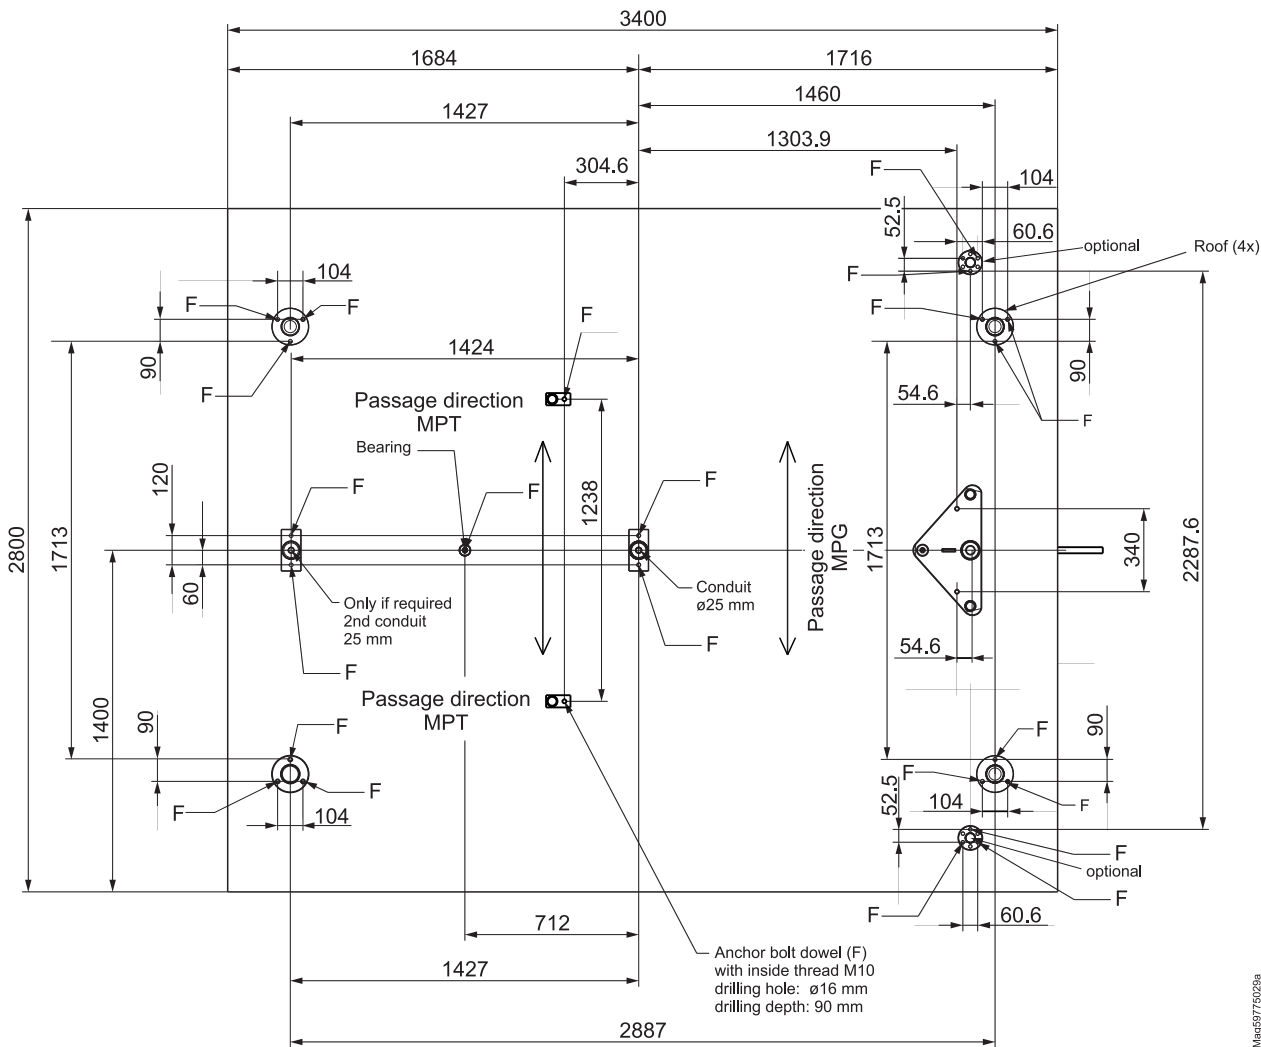

Fig. 5: Base frame for MPG-162 with turnstile MPT
1. Make the bore holes as per the drilling plan (see page 27, Fig. 5). Use the steel plate drilling jig supplied.